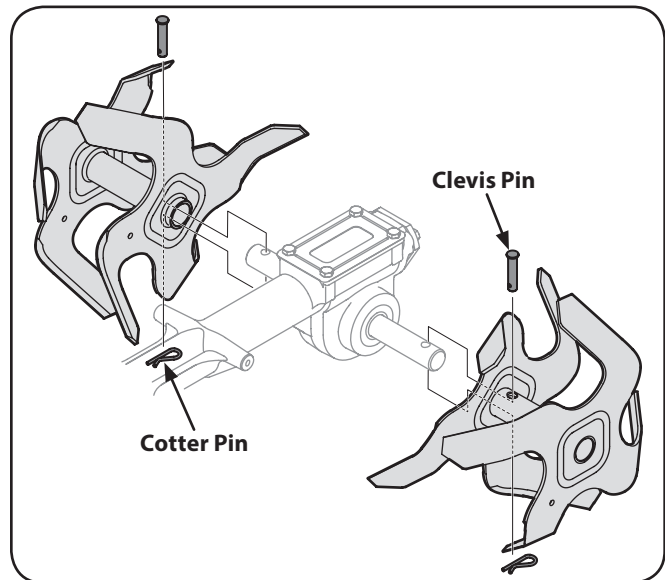

**Figure 7-4**
3. To remove a tine assembly, simply remove the cotter pin securing the clevis pin as seen in Figure 7-4. Remove the clevis pin and slide the assembly to the outside of the unit and off of the tine shaft.